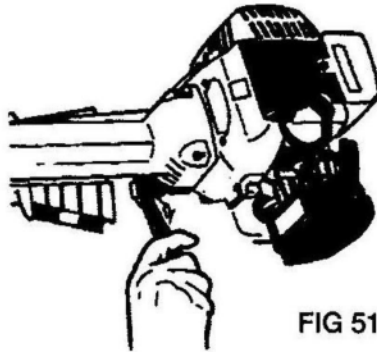

FIG 51
2. Unscrew with 8mm (5/16") socket spanner, 4 screws around clutch housing Fig 51.